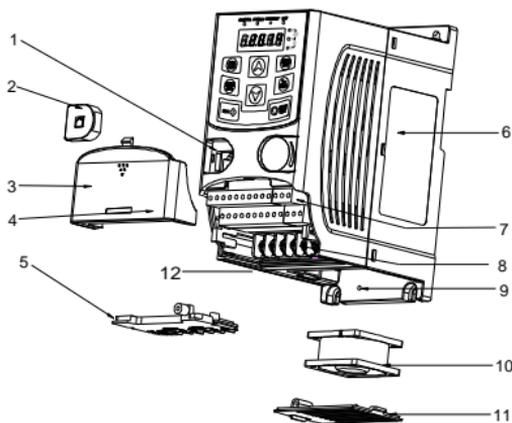

Figure 2-3 Structure diagram of 3PH 380V, 4kW and lower VFD models
Figure 2-3 shows the structure of the 4kW and lower VFD models (using the 4kW VFD as an example).
**Note:** In Figure 2-3, the screws at 4 and 9 are provided with packaging, and specific installation depends on the requirements of customers.